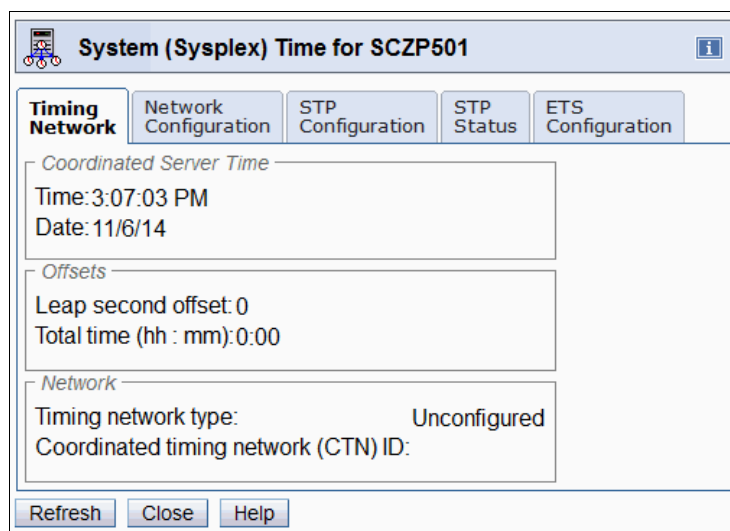

Figure 9-29 System (Sysplex) Time: Initial status
- The System (Sysplex) Time panel opens (Figure 9-29) showing an initial status.